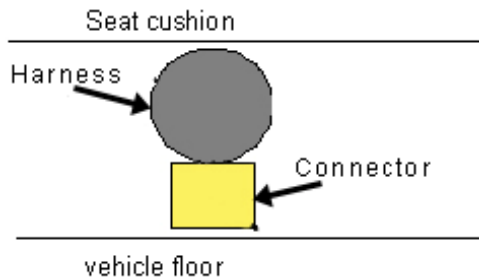

Figure 5c
6. Secure the SAB connector to the seat harness and metal rod as shown in Figure 5c and 6c.
- Make sure the connector is secured to the bottom of the harness as shown in Figure 5c.